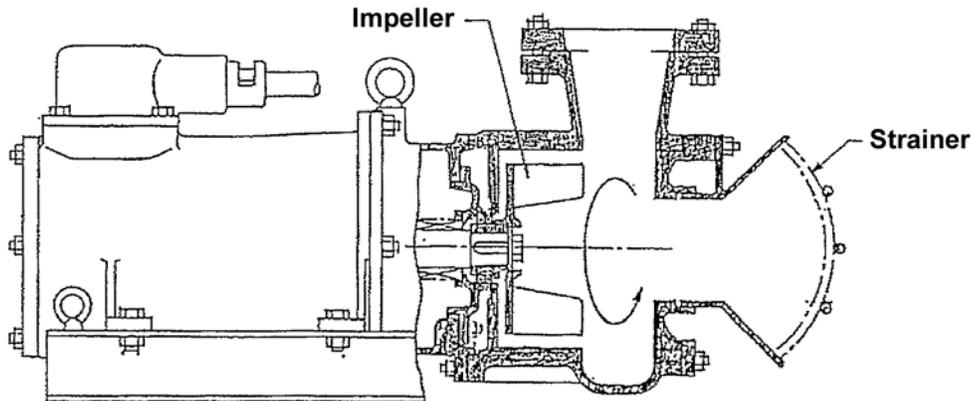

Figure 1
4. Pump revolution direction- the correct revolution direction of the impeller is counterclockwise viewing from the strainer side as shown in Fig. 1.